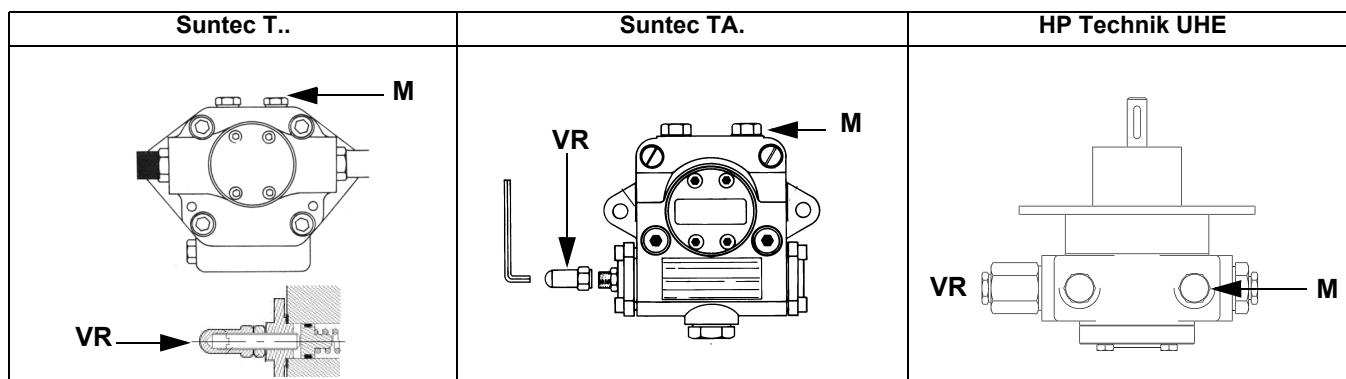

Fig. 10
- 3 bleed the air from the **M** pressure gauge port (Fig. 10) by loosening the cap without removing it, then release the contactor.
- 5 Only if necessary, adjust the supply pressure as follows (see related paragraph); insert a pressure gauge into the port shown on Fig. 11 and act on the pump adjusting screw **VR** (see Fig. 10) as to get the nozzle pressure at 20bar (Monarch or Fluidics nozzles - see page 46-38).